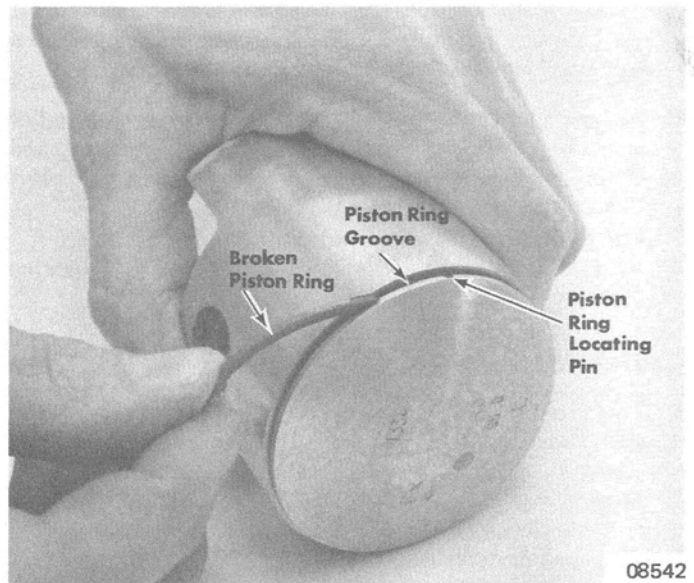

Figure 9. Cleaning Piston Ring Grooves
2. Thoroughly clean pistons. Remove carbon deposits and "varnish" from pistons with a soft wire brush or carbon remover solution. Clean ring grooves with recessed end of a broken ring. (Figure 9) Do not burr or round machined edges.
3. Inspect piston ring grooves for wear, burn and distortion. Piston ring locating pins (located in ring grooves - Figure 9) prevent rings from rotating. Locating pins must be tight in ring grooves.